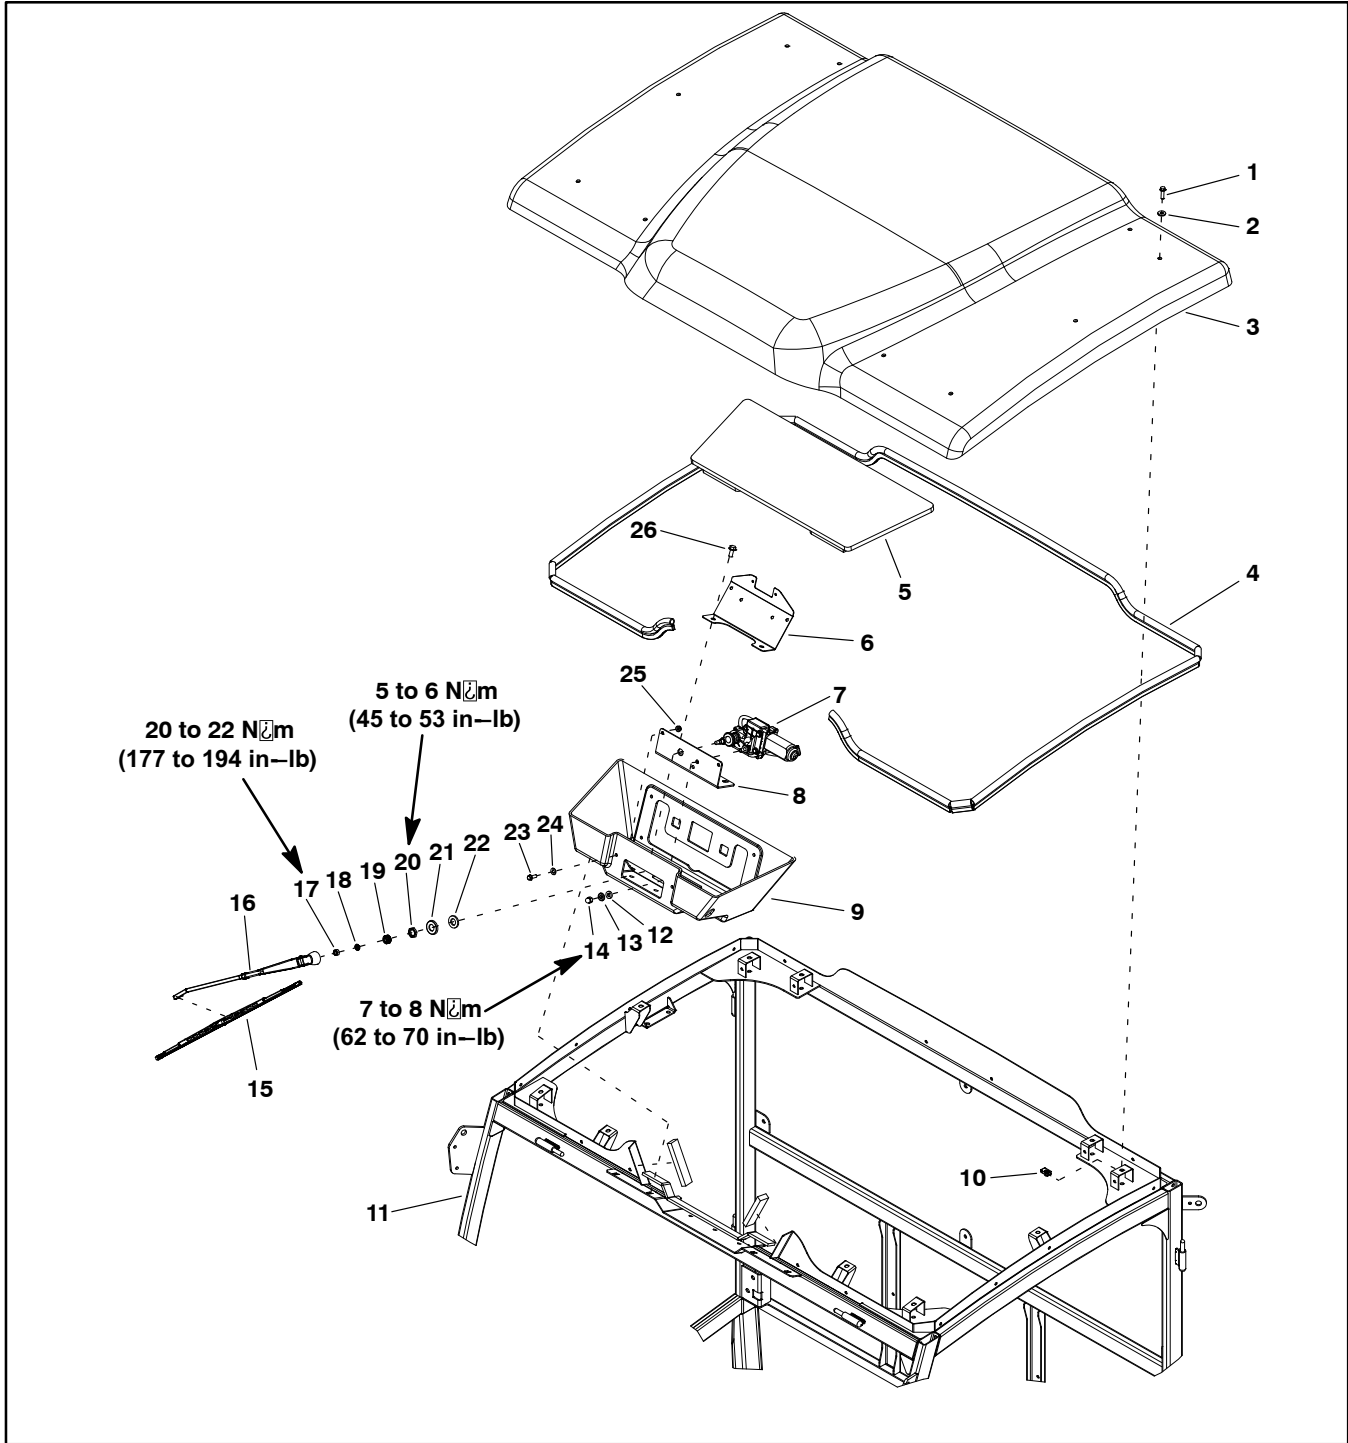

Figure 43
Removal (Fig. 43)
2. Remove the wiper blade (item 15 in Fig. 43) from the wiper arm.
5. Remove the wiper motor components as shown in Figure 43.
Installation (Fig. 43)
2. Install the wiper motor components that were removed (Fig. 43) and do the following: